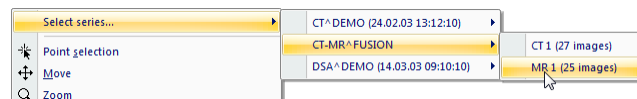

Figure 124 – Series selection by context menu
2. Click with the right mouse button to display its context menu (see Figure 124).